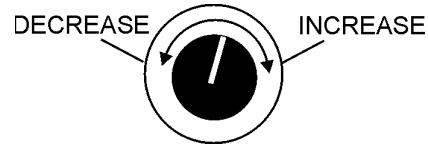

Figure 22. Voltage Regulator Knob
3. Turn the voltage regulator knob (Figure 22) clockwise to increase voltage output, turn counterclockwise to decrease voltage output. Use voltage regulator adjustment knob whenever fine tuning of the output voltage is required